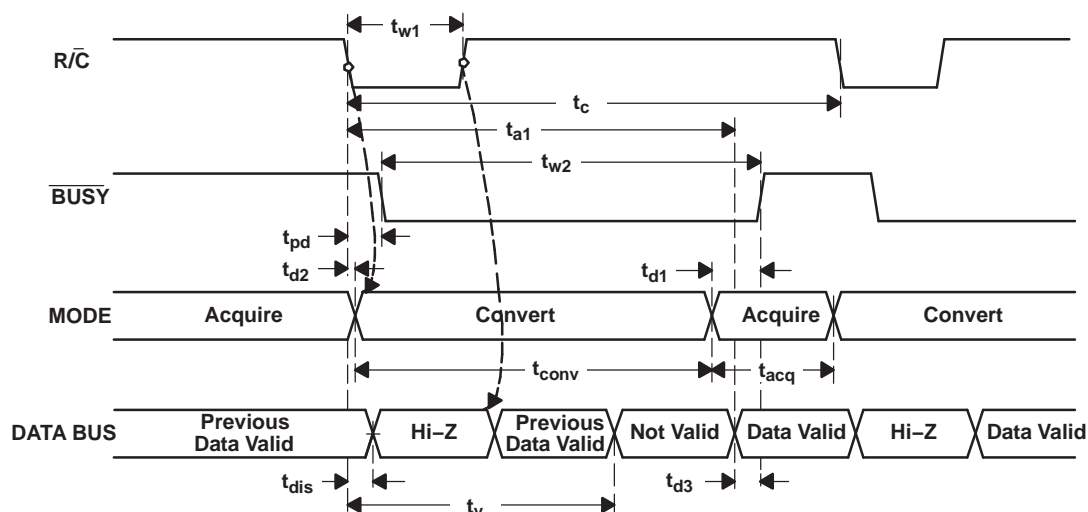
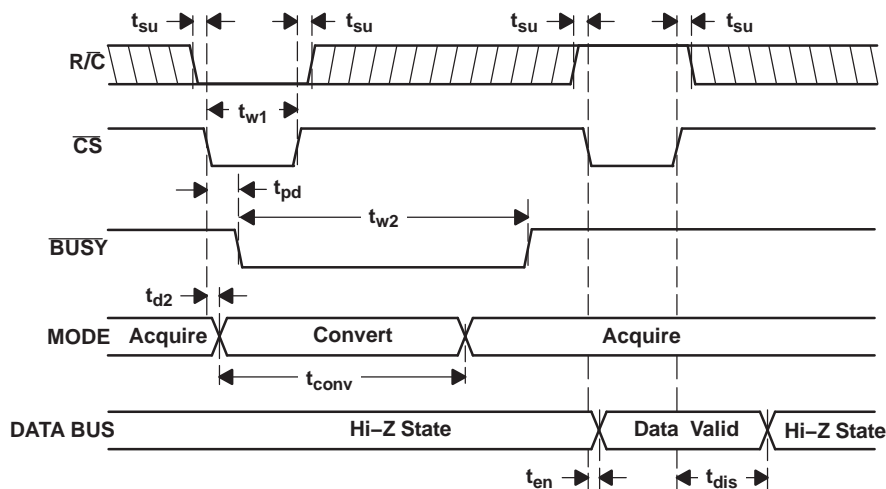
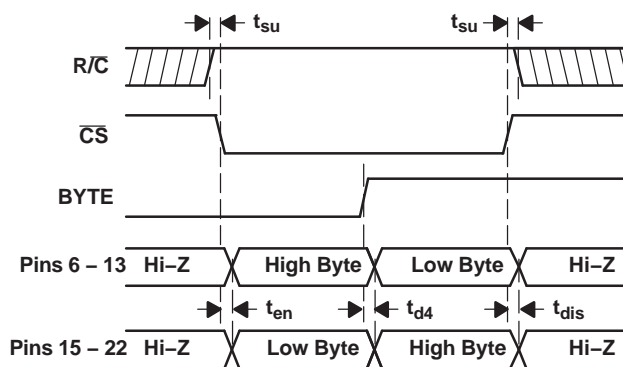

Figure 23. Conversion Timing with Outputs Enabled after Conversion ($\overline{\text{CS}}$ Tied Low)
Figure 24. Using $\overline{\text{CS}}$ to Control Conversion and Read Timing
Figure 25. Using $\overline{\text{CS}}$ and BYTE to Control Data Bus
The ADS8505 begins tracking the input signal at the end of the conversion. Allowing 4 μ s between convert commands assures accurate acquisition of a new signal. Refer to Table 1 for a summary of \overline{CS} , R/\overline{C} , and \overline{BUSY} states and Figure 23 through Figure 25 for the timing diagrams.
(1) See Figure 23 and Figure 24 for constraints on data valid from conversion $n-1$.
After conversion n is completed and the output registers have been updated, \overline{BUSY} (pin 26) goes high. Valid data from conversion n is available on D15-D0 (pins 6-13 and 15-22). \overline{BUSY} going high can be used to latch the data. Refer to Table 3, Figure 23, Figure 24, and Figure 25 for timing specifications.
After conversion n has been initiated, valid data from conversion $n-1$ can be read and is valid up to t_2 (2.2 μ s typ) after the start of conversion n . Do not attempt to read data from t_2 (2.2 μ s typ) after the start of conversion n until \overline{BUSY} (pin 26) goes high; this may result in reading invalid data. Refer to Table 3, Figure 23, Figure 24, and Figure 25 for timing specifications.
The number of control lines can be reduced by tying \overline{CS} low while using the falling edge of R/\overline{C} to initiate conversions and the rising edge of R/\overline{C} to activate the output mode of the converter. See Figure 23.